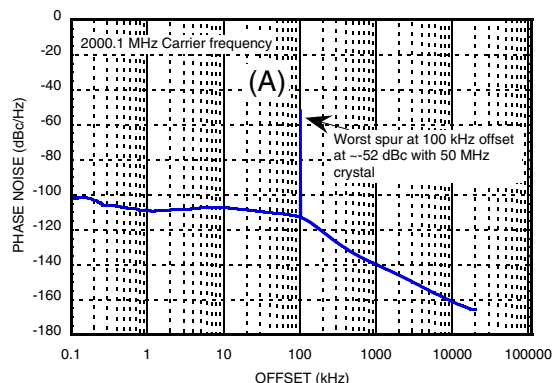
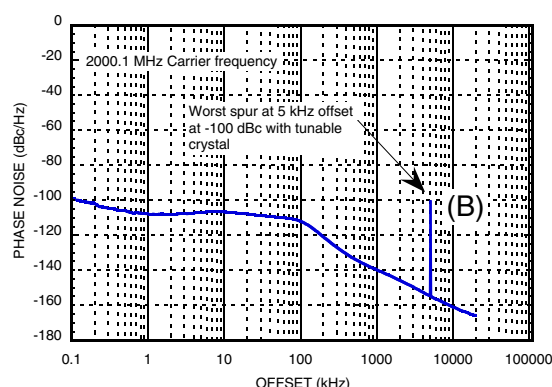
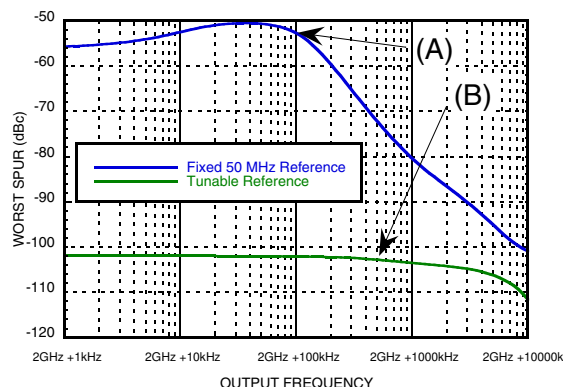

Figure 35. HMC834LP6GE Worst spur at any offset, fixed 50 MHz reference, output frequency = 2000.1 MHz
Figure 36. HMC834LP6GE worst spur at any offset, tunable reference (HMC830LP6GE), output frequency = 2000.1 MHz
Figure 37. Largest observed spurious, at any offset, using a fixed 50 MHz reference source and a tunable reference source.
For example, Figure 35 shows the spectrum of a carrier operating at 2000.1 MHz with a 50 MHz fixed reference. This case is 100 kHz away from an Integer Boundary (50 MHz x 40). Worst case spurious can be observed at 100 kHz offset and about -52 dBc in magnitude.
Figure 36 shows the same HMC834LP6GE PLL VCO operating at the same 2000.1 MHz carrier frequency, using a tunable reference at 47.5 MHz generated by HMC830LP6GE. Worst case spurious in this case can be observed at 5 MHz offset and about -100 dBc in magnitude.
The results of Figure 35 and Figure 36 show that the tunable reference source achieves 50 dB better spurious performance, while maintaining essentially the same phase noise performance.
Many spurious measurements, such as the ones in Figure 35 and Figure 36 can be summarized into a single plot of worst case spurious at any offset vs. carrier frequency as shown in Figure 37. A log frequency display relative to the 2000 MHz fixed reference Integer Boundary was used to emphasize the importance
For example worst case spurious operating at 2000.1 MHz (point (A)) in Figure 35 with a fixed 50 MHz reference) is represented by a single point in Figure 37 (point (A)) on the blue curve. Similarly, worst case spurious from Figure 36 with variable reference, operating at 2000.1 MHz is represented by a single point in Figure 37 (point (B)) on the green curve.
The plot in Figure 37 is generated by tuning the carrier frequency away from Integer Boundary and recording the worst case spurious, at any offset, at each operating frequency. Figure 37 shows that the worst case spurious for the 50 MHz fixed reference case, is nearly constant between -51 dBc and -55 dBc when operating with a carrier frequency less than 100 kHz from the Integer Boundary (blue curve). It also shows that the worst case spurious rolls off at about 25 dB/decade relative to 1 loop bandwidth. For example, at an operating frequency of 2001 MHz (equivalent to 10 loop bandwidths offset) worst case spurious is -80 dBc. Similarly, at an operating frequency of 2010 MHz (equivalent to 100 loop bandwidths) worst case spurious is -100 dBc.
In contrast, the green curve of Figure 37 shows that the worst case spurious over the same operating frequency range, when using an HMC834LP6GE tunable reference, is below -100 dBc at all operating frequencies!